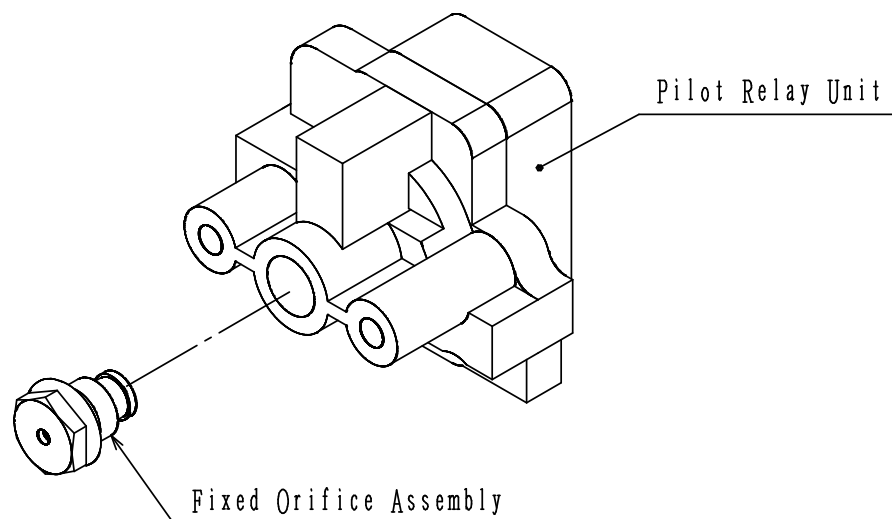

Figure 5-1
- Take off the exhaust cover, then remove the fixed orifice assembly from the pilot relay unit and replace with a spare assembly. (See Figure 5-1)